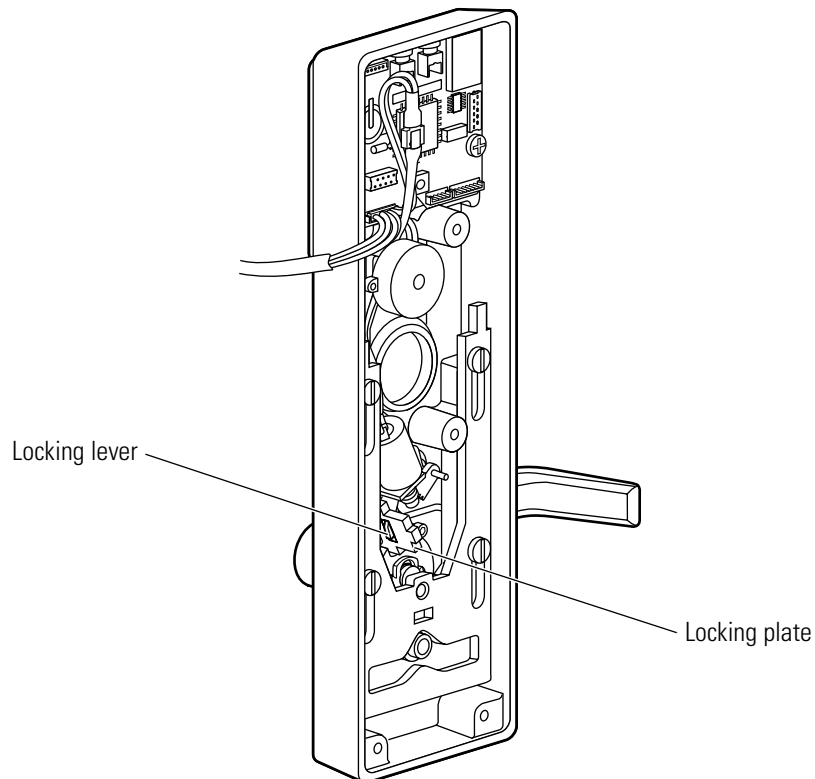

Figure 10.10 Removing and reinstalling the locking plate
2. Slide the locking plate out of the escutcheon. See Figure 10.10.